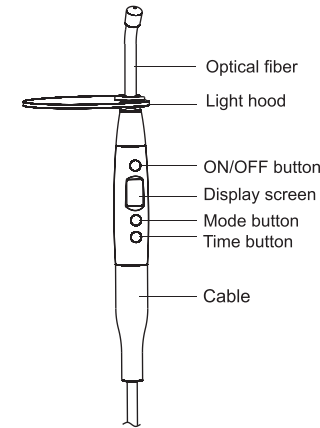

Figure 1
c) Install the light hood as showed in figure 1.